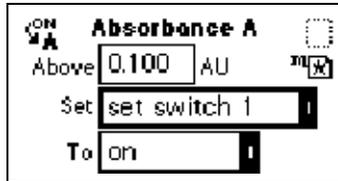

Figure 3-22 Threshold Events Screen
2. Press **2, Threshold events**. An active field (AU) for entering the threshold is displayed. When you begin to enter a number in the AU field, additional fields are displayed (Figure 3-22).